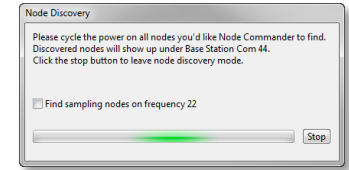

Figure 3: Node Discovery window
5. Click Node Discovery and the Node Discovery window appears (Figure 3).